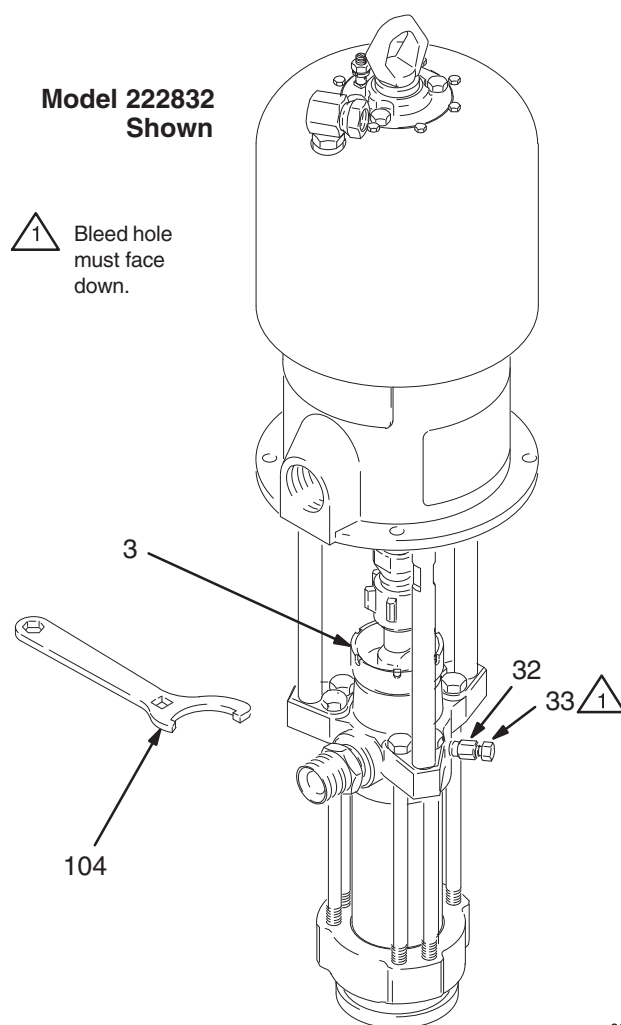

Fig. 6
Fill the packing nut/wet-cup (3) 1/3 full with Graco Throat Seal Liquid (TSL) or compatible solvent. See Fig. 6. Using the supplied wrench (104), adjust the packing nut weekly so it is just snug; do not overtighten. Follow the **Pressure Relief Procedure Warning** above before adjusting the packing nut.
4. If the pump fails to prime properly, open the bleeder valve plug (33) slightly. Use the bleed hole on the underside of the valve body (32) as a priming valve until the fluid appears at the hole. See Fig. 6. Close the plug (33).
**NOTE:** When changing fluid containers with the hose and gun already primed, open the bleeder valve plug (33), to assist in priming the pump and venting air before it enters the hose. Close the bleeder valve when all air has been eliminated.
8. If the pump fails to prime properly, open the bleeder valve plug (33) slightly. Use the bleed hole, on the underside of the body (32), as a priming valve until the fluid appears at the hole. See Fig. 6. Close the plug (33).
10. Use the fluid pressure gauge (F) and flow control valve (G) to control the pump speed and the fluid outlet pressure. Always use the lowest hydraulic flow and pressure necessary to get the desired results. Higher pressures cause premature tip/nozzle and pump wear.